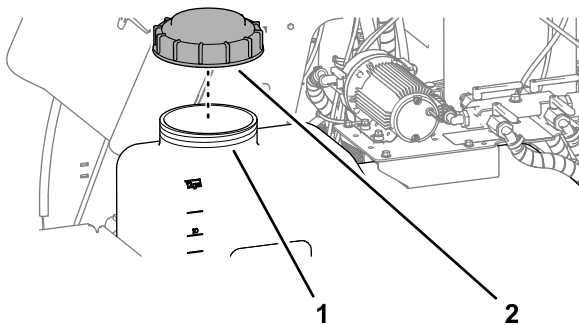

Figure 42
5. Open the tank cap on the spray tank (Figure 42).